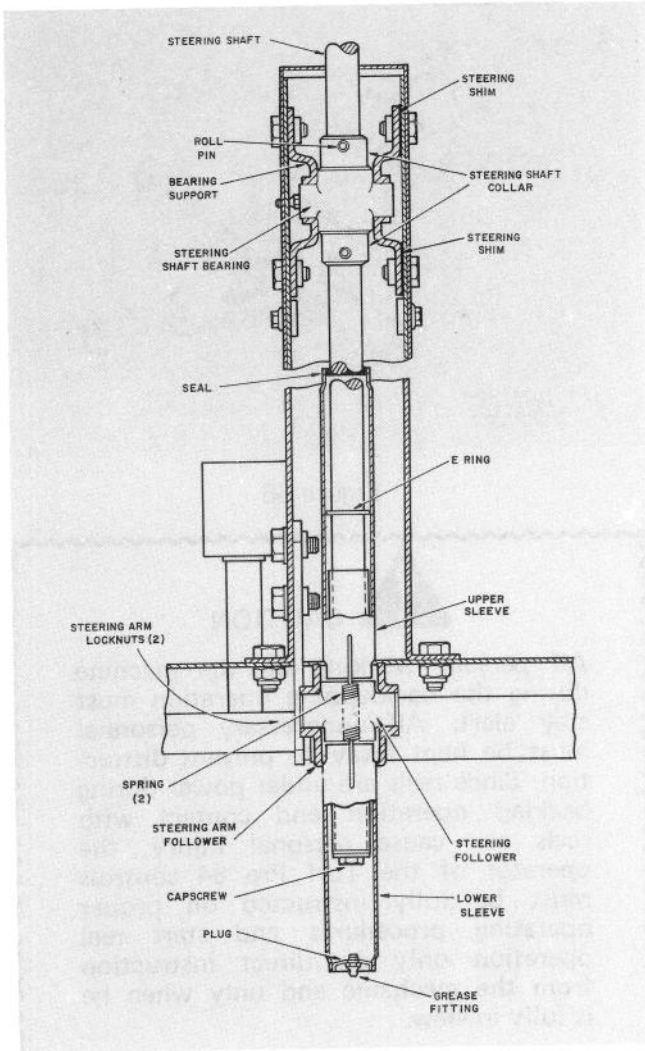

Figure 52
2. Remove two (2) Locknuts securing lower Steering Arm Follower and remove Steering Arm Follower from Steering Follower (Fig. 52).
3. Disassemble two (2) Springs from Lower Sleeve, remove sleeve from Steering Follower to expose capscrew in lower end of Steering Shaft and remove Capscrew (Fig. 52).